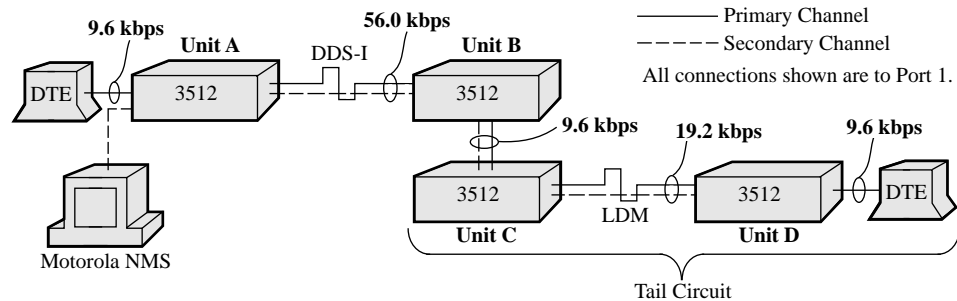

Figure 6-36. 3512 on Private Wire Tail Circuit off a DDS-I Circuit
- Set **Pn Data**=Sync External at the crossover units (B and C, in Figure 6-36), so that each device uses the other's receive clock for its transmit timing. For details, refer to “DSU/CSU and Port Timing” in this chapter.
- In a DDS-I LDM configuration, the 3512 can sometimes use clock signals from the crossover cable to clock the entire tail circuit, thereby avoiding slips. To do this, set **Timing**=External Pn (*MODIFY main menu, MODIFY DSU category) on the tail-circuit crossover device (Unit C below). Set the remote device (D) to Network.
A **56 kbps LDM tail circuit off a DDS-I** type 56 kbps circuit is shown in Figure 6-36. The 3512 is set for rate adaptation (**DTE Con**=Muxed) providing a standard DTE port rate to the tail circuit.